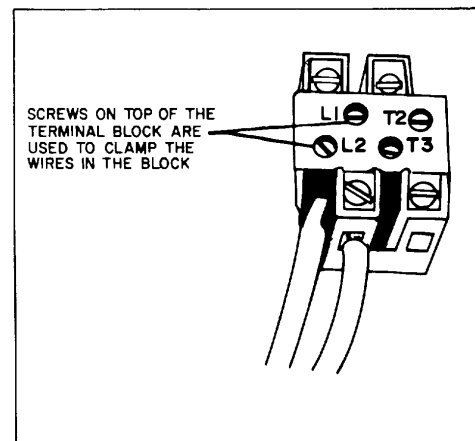

Figure 30. Terminals LI-L2 Connections
3. The wires must be connected to terminals L1 and L2 through the front face of the terminal block as shown in Fig. 30. The screws on the top of the terminal block are used for clamping the wires in the terminal block.